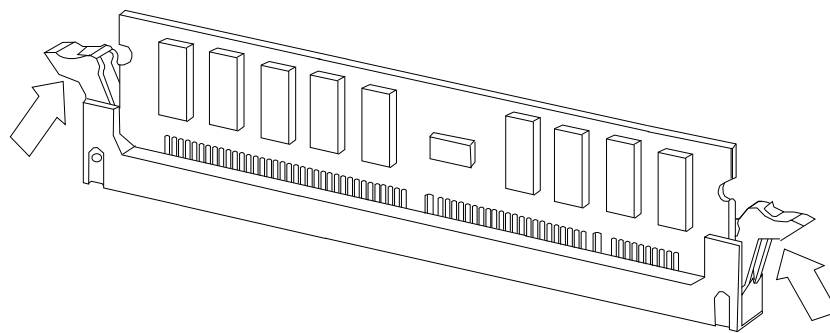

Figure D-11: Locking DSIMMs in Place
6. To lock the DSIMM in place, push both ejector levers into the upright position (see Figure D-11).